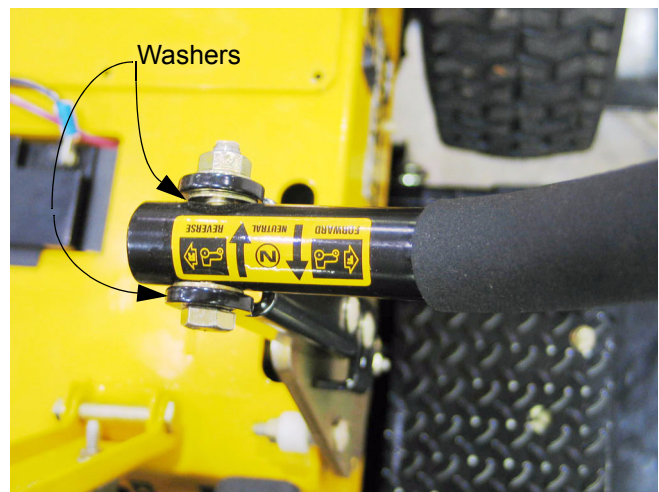

Figure 15.2
15.2. The pivot handles are bolted to the lap bar pivot brackets, with washer on each side of the pivot bar handle. See Figure 15.2.